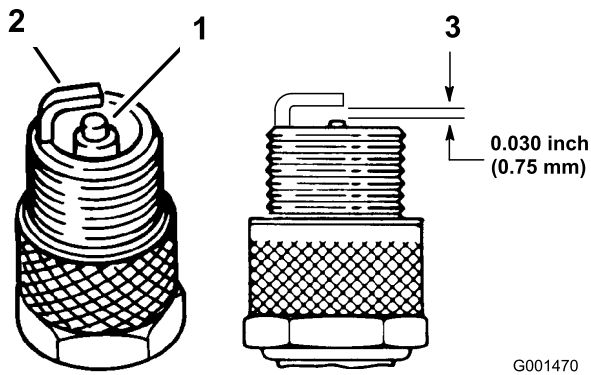

Figure 27
- Look at the center of the spark plugs (Figure 27). If you see light brown or gray on the insulator, the engine is operating properly. A black coating on the insulator usually means that the air cleaner is dirty.
3. Check the gap between the center and side electrodes (Figure 27). Bend the side electrode (Figure 27) if the gap is not correct.
3. Connect the wires to the spark plugs (Figure 27).